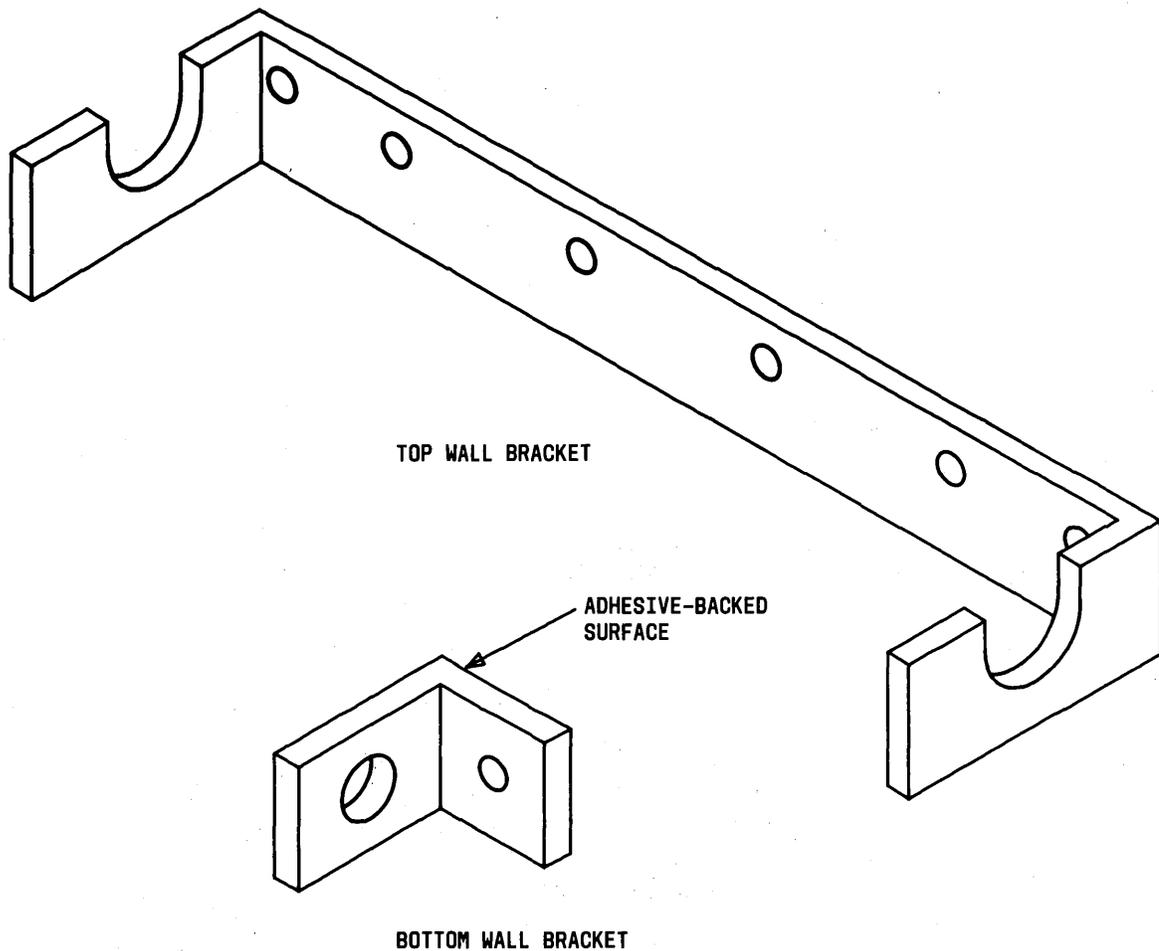
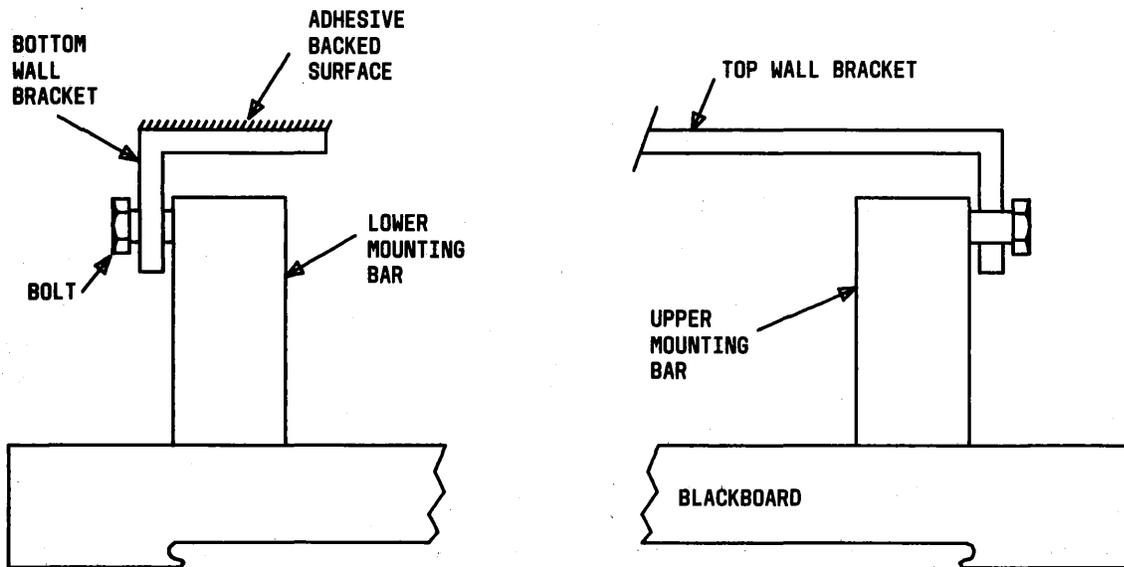

Fig. 23—Wall Brackets
Fig. 31—Wall Mounting—Top View
- 1 Top wall mounting bracket (Fig. 23)
- 2 Bottom wall mounting brackets (Fig. 23)
5.22 Remove the lower mounting bolts from the lower mounting bars of the blackboard. Swing the blackboard away from the wall, place the bottom wall bracket (Fig. 23) next to the outside of the lower mounting bar, and insert bolt through the mounting bar and bracket (Fig. 31). Center (approximately) the bolts in the oval cutouts and tighten them fingertight so that the wall brackets are approximately at right angles to the mounting bar. A guide for capturing the nuts is provided on the lower mounting bars.
5.29 Lift the blackboard and carefully place the top mounting bolts of the blackboard into the U-shaped opening of the mounting bracket (Fig. 31).